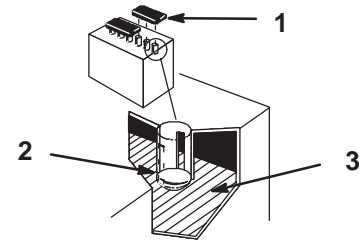

Figure 51
1. Open covers to see into the cells. The electrolyte must be up to the lower part of the tube (Fig. 51). Do not allow the electrolyte to get below the plates. (Fig. 51).
2. Lift off the filler caps (Fig. 51).
3. Slowly pour distilled water into each battery cell until the level is up to the lower part of the tube (Fig. 51).